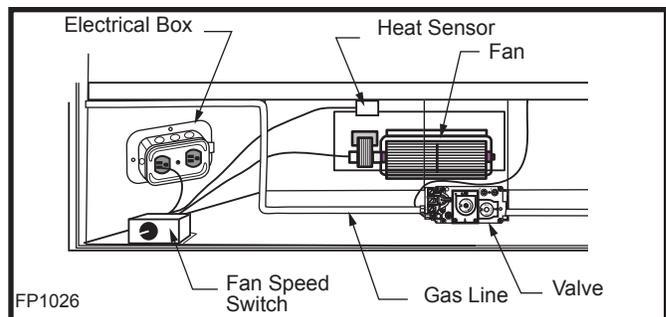

Fig. 80 FK24 fan placement.
1. Slide fan assembly from the left side into the fireplace opening, line up mounting holes with screw studs on back of fireplace and fasten with #10 - 24 hex nuts. (Fig. 80)